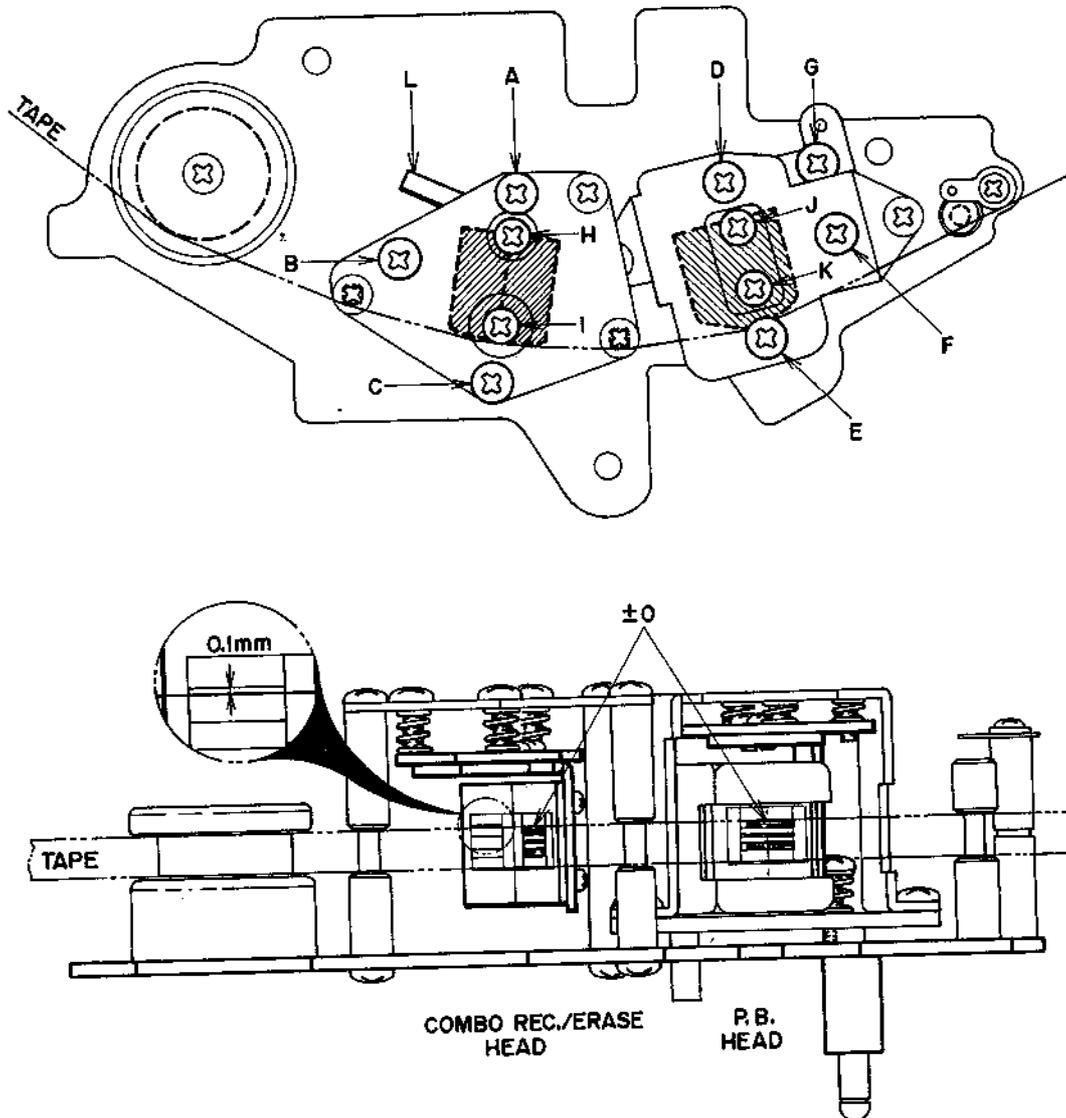

Fig. 18
At Playback mode adjust COMBO head height by turning screws (A) (B) and (C) shown in Fig. 18 to left and right until the upper edge of the tape is the same height as the upper edge of the left channel recording head core.
- a) At Forward Playback mode, adjust playback head height by turning screws (D) (E) and (F) shown in Fig. 18 to left and right until the upper edge of the tape is the same height as the upper edge of the left channel playback head core.
- b) At Reverse Playback mode, adjust playback head height by turning screw (G) shown in Fig. 18 to left and right until the lower edge of the tape is the same height as the lower edge of the right channel playback head core.
- d) At Forward Playback mode, turn Azimuth Alignment Screw (F) shown in Fig. 18 to obtain maximum line output level on both channels.
- e) After the adjustment in Item d) above has been completed, loosen screws (J) and (K) shown in Fig. 18 and move the head gap side of the playback head to left and right. When tension is applied to the supply reel side and
- d) At recording mode, turn Azimuth Alignment Adjustment Screw (B) shown in Fig. 18 to left and right until the line output level of both channels is maximum and does not fluctuate.
- e) After completing adjustment in Item d) above, adjust gap side of recording head by moving installation angle (L) shown in Fig. 18 to left and right until the line output level of both channels do not fluctuate (maximum allowable fluctuation within  $+0.5/-0$  dB) when tension is applied to the supply reel side.